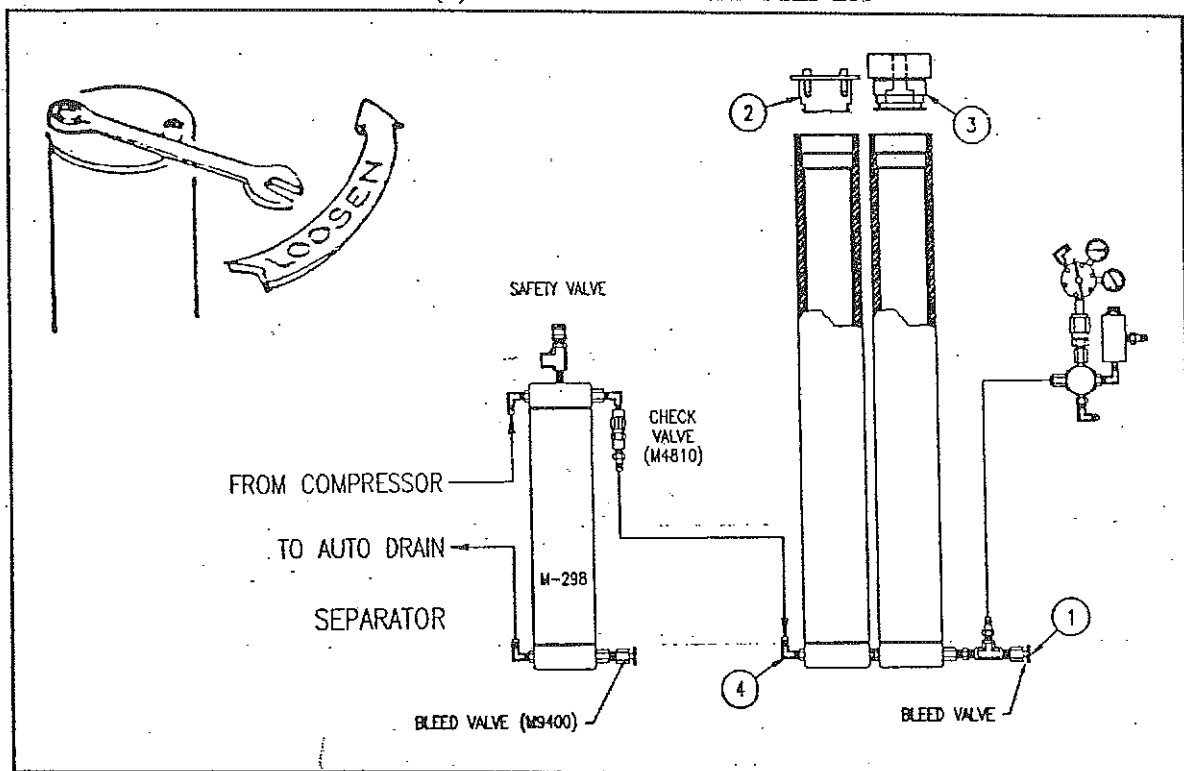

FIGURE 5-5 PURIFICATION CHAMBER PLUG REMOVAL
4. Slowly remove top plug(s) (2) and (3) from the purification system chamber (s) (see Figure 5-5).
5. Remove line at fitting (4) (see Figure 5-5). Any water up stream of the first filter chamber will drain out.